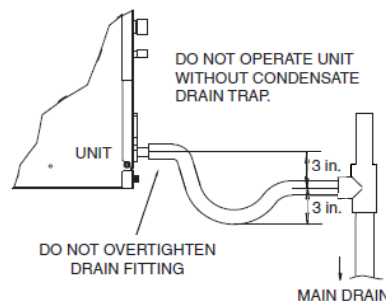

Fig. 4 —Condensate Drain Trap
- The differential height between inlet and outlet should be at least three inches. The differential height between the bottom of the trap and outlet should also be three inches. See Fig. 4.